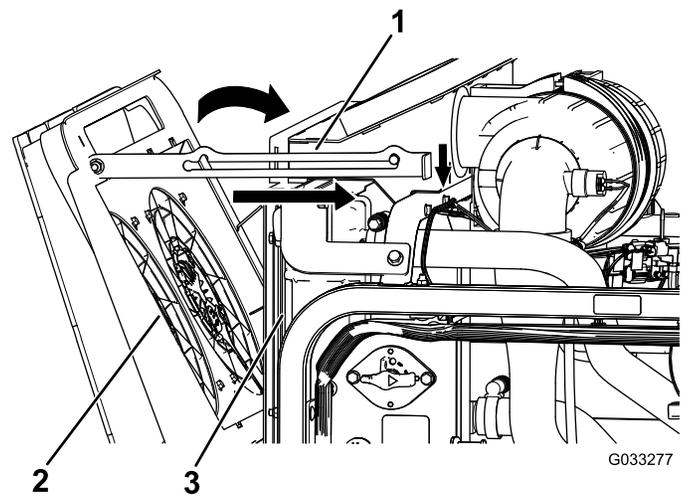

Figure 121
4. Pivot the engine-cooling fans forward and lock the prop rod into the notch (Figure 121).